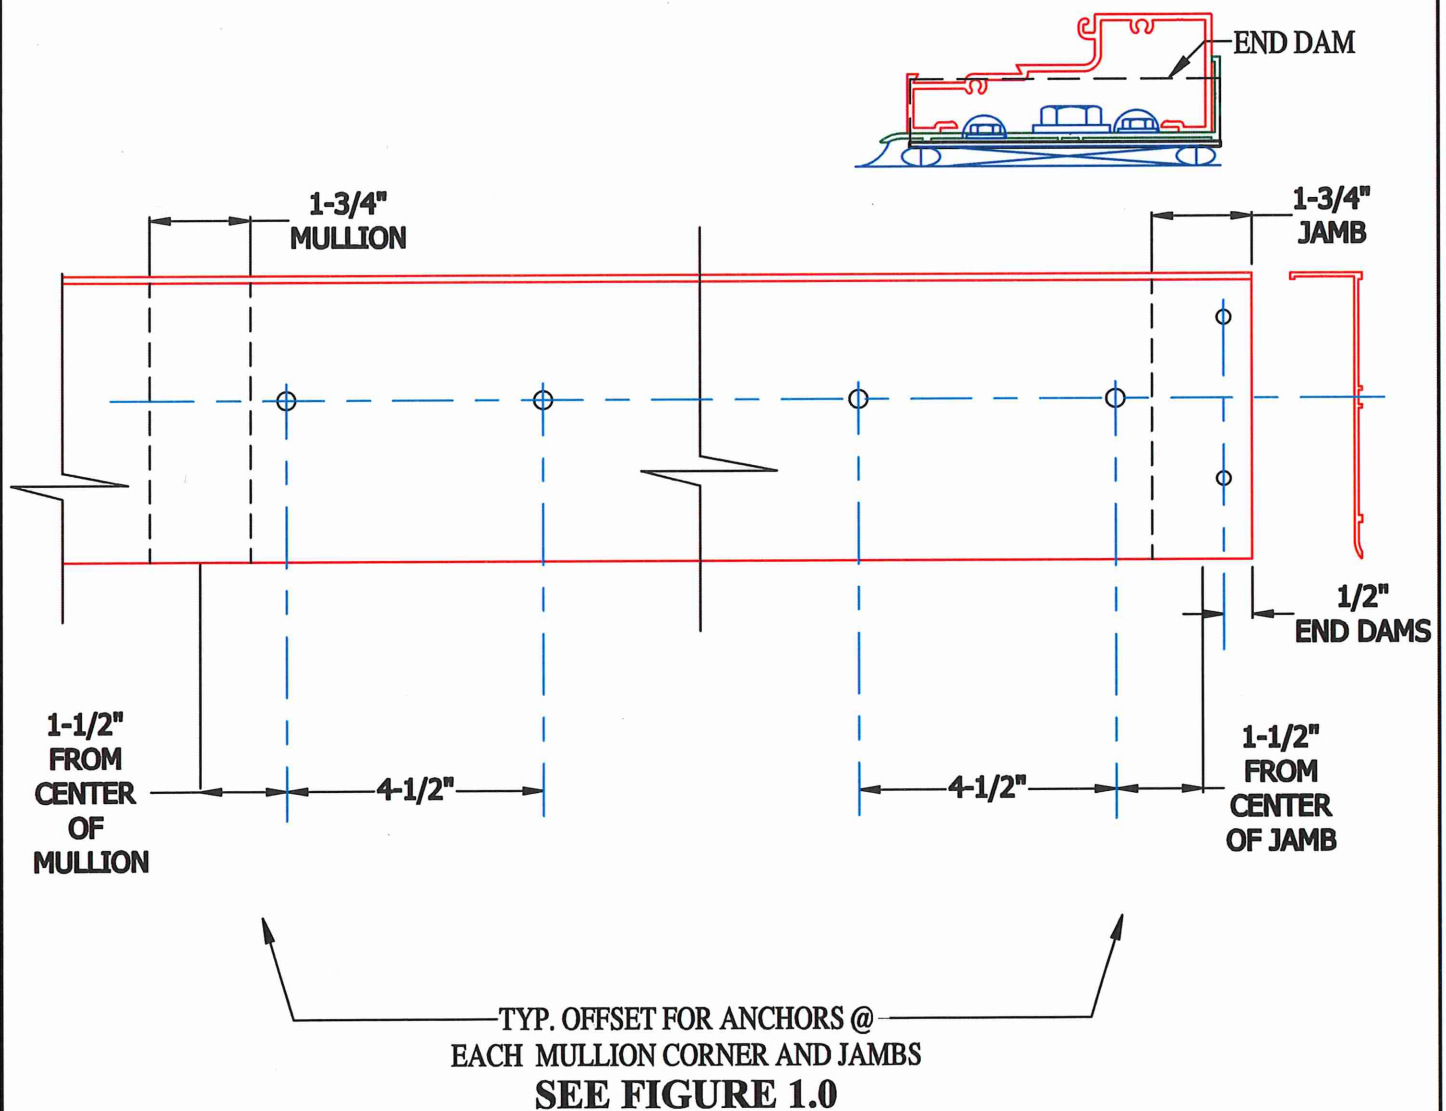

FIGURE 1.1
1.3 Offset 1st anchor hole location at 1-1/2" center from ends, 2nd hole location at 4-1/2" center from first hole location. SEE FIGURE 1.1